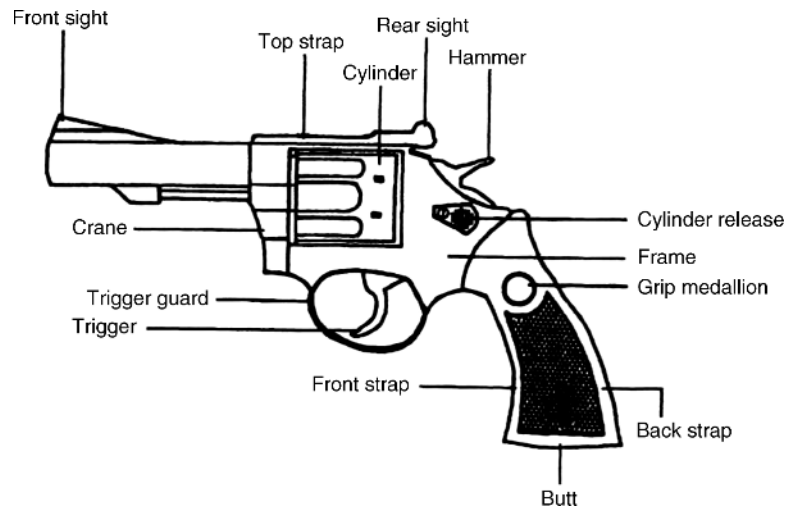

Figure 1.0.10 Major parts of a typical solid frame revolver.
1.0.8 The revolver (Figure 1.0.10)